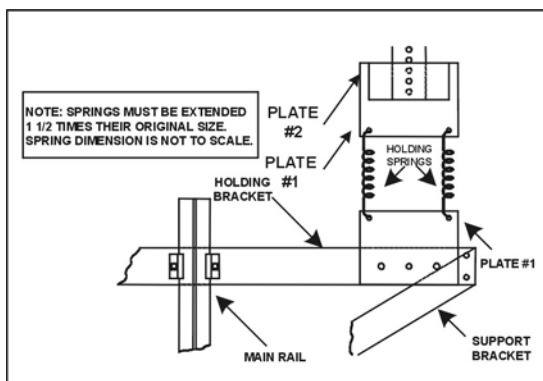

Figure 1-23
- Connect tension springs to plate #1 and to support bracket plate #1. [See Figure 1-23.]